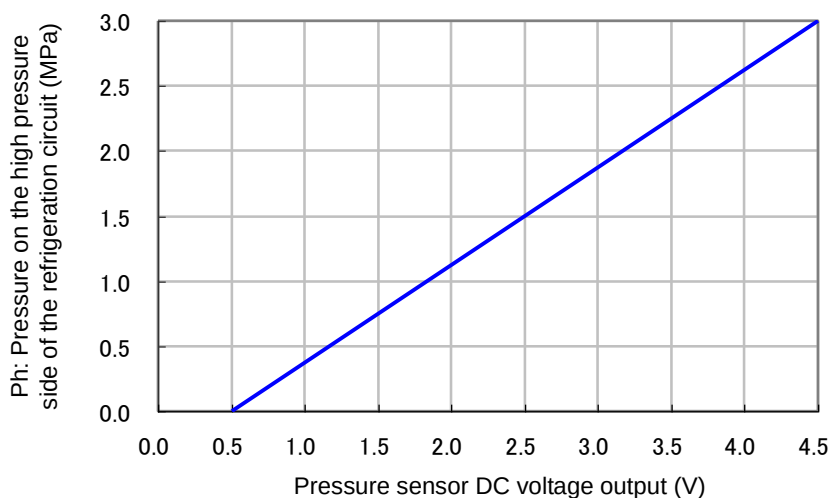

Fig. 3.3-39 Refrigerant circuit pressure sensor (for high pressure) analogue output
- (1) Check the "Ph: Refrigerant circuit pressure on the high pressure side" value in the "Check Monitor Menu".
- (2) Check voltage by contacting the probe of the tester directly to the connector external surface with the "CN4" connector of the main board being inserted.
- (3) Contact the positive probe to the pin number 11 and contact the negative probe to the pin number 10 of the "CN4" connector.
- (4) Check that the voltage between the pin number 11 and the pin number 10 is in the same relationship shown in Fig. 3.3-39. (Accuracy: $\pm 5\%$)
- (5) If the voltage is in the same relationship as the graph shows, it means that the main board is operating correctly.